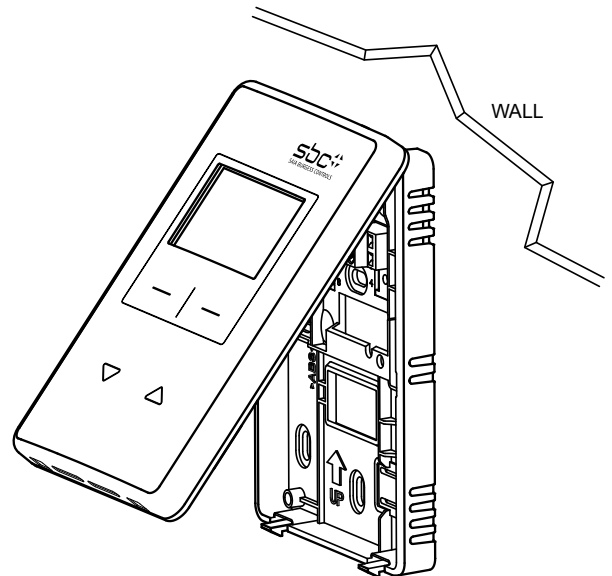

Fig. 8. Removing Wall Module from Subbase
When all wiring is complete, hook the top side, and then snap down like on a hinge. See Fig. 8.
- Pull the wall module up and away from the subbase. See Fig. 8.